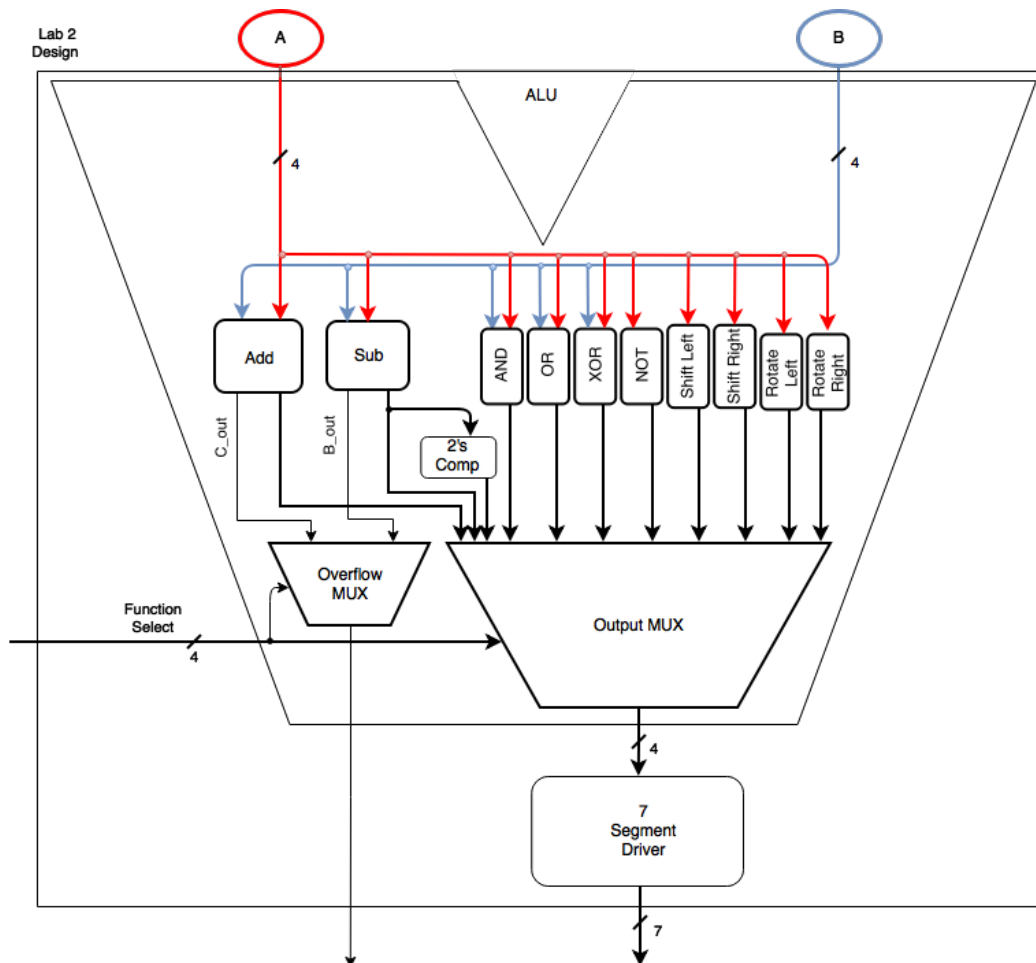

Figure 1: Lab 2 Block Diagram
In this lab you will design an Arithmetic and Logic Unit (ALU) that implements 11 functions, as shown in Figure 1. Output will be displayed as hexadecimal values on a seven-segment display.
3. Design a VHDL module for an 11-to-1 multiplexer that will use the *Function Select* input as select. This is the *Output MUX* in Figure 1.
4. You have been given a working module for the *Two's Complement* used within the ALU. Create an *ALU.vhd* file with an *ALU* module that has the same ports as the ALU shown in Figure 1, except that the inputs A and B, and the output R should be defined as generic N-bit wide vectors. Declare components for the N-bit Ripple Carry Adder and Subtractor, the MUX-es and for the Two's Complement modules.
- a. Instantiate each one of the components within the *ALU architecture* once. Connect the outputs of the Adder, Subtractor, and Two's Complement internal functions to the inputs of the Output MUX. Make sure to follow the assignment order shown in Figure 1 (Table 2 in the detailed lab description). Connect the overflow bits of the Adder and Subtractor modules to the 2-to-1 MUX, and make sure to assign the least significant bit of the *Function Select* ALU input as the select input to the 2-to-1 MUX.
- b. For the remaining binary and unary operators, use dataflow assignments to internal *ALU-architecture* signals, and then connect these signals to the output MUX in the order shown in Table 2/Figure 1.
5. Write a *Lab2.vhd* file that instantiates and interconnects, as shown in Figure 1, one ALU and one 7-Segment Driver, a module which was provided to you. Map the instantiated ALU's *generic* to 4 bits.
- a. Synthesize the design. Review the elaborated schematic to make sure the RTL design synthesized mimics the RTL design shown in Figure 1.